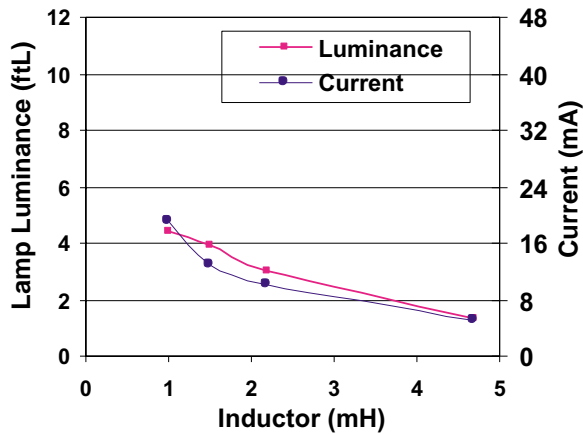

Figure 3: $V+=1.5V$, 1 in^2 EL Lamp
The external inductor (L) selection for a D356B circuit greatly affects the output capability and current draw of the driver. A careful designer will balance current draw considerations with output performance in the choice of an ideal inductor for a particular application. Figures 3, 4, and 5 show typical brightness and current draw of a D356B circuit with different inductor values, lamp sizes, and supply voltages. Please note that the DC resistance (DCR) of inductors with the same nominal inductance value may vary with manufacturer and inductor type. Thus, inductors made by a different manufacturer may yield different outputs, but the trend of the different curves should be similar. Lamp luminance is also a function of lamp size. In each example, a larger lamp will have less luminance with approximately the same current draw.